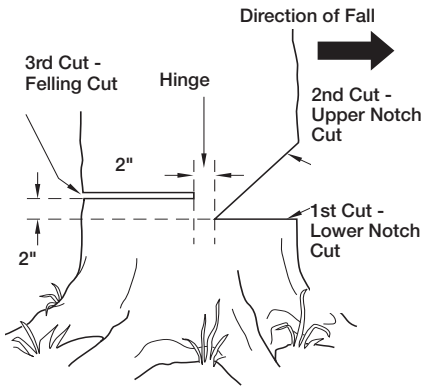

Figure 12 - Felling A Tree
A properly placed felling notch will determine direction tree will fall. Place felling notch on side of tree in direction you want tree to fall (see Figure 12). Follow directions below to create a felling notch.
1. Make lower notch cut as close to ground as possible. Hold saw so guide bar is horizontal. Cut 1/3 the diameter of tree trunk (see Figure 12). Note: Always make this horizontal lower notch cut first. If you make this cut second, tree can pinch chain or guide bar.
2. Start upper notch cut the same distance above first cut as first cut is deep. Example: If lower notch cut is eight inches deep, start upper notch cut eight inches above it. Cut downward at 45° angle. The upper notch cut should meet end of lower notch cut (see Figure 12).
1. Make felling cut two inches higher than lower notch cut and on opposite side of tree (see Figure 12). Keep felling cut parallel to lower notch cut.
⚠ WARNING: Do not cut all the way through tree. Leave about two inches of tree diameter uncut directly behind felling notch (see Figure 12). This uncut portion acts as a hinge. The hinge helps keep tree from twisting and falling in wrong direction.